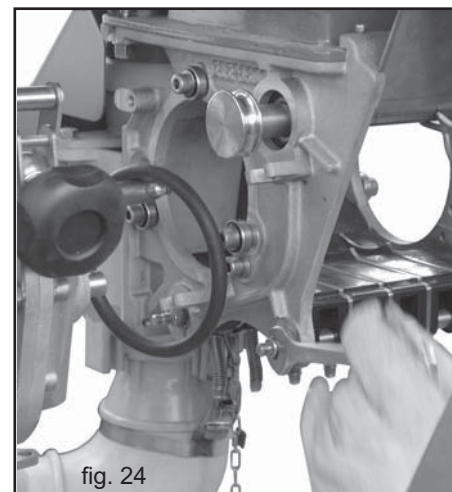

fig. 24
- 1) In order to disassemble the feeler unit, loosen the four nuts of the axles (front and back) (Fig. 24), using a 13 mm spanner...